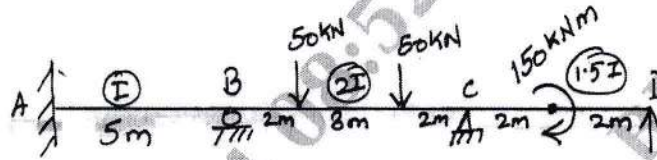

Fig.Q9
- 9 Analyze the beam shown in Fig.Q9. By stiffness matrix method, take E same throughout the beam. Draw S.F.D and B.M.D.